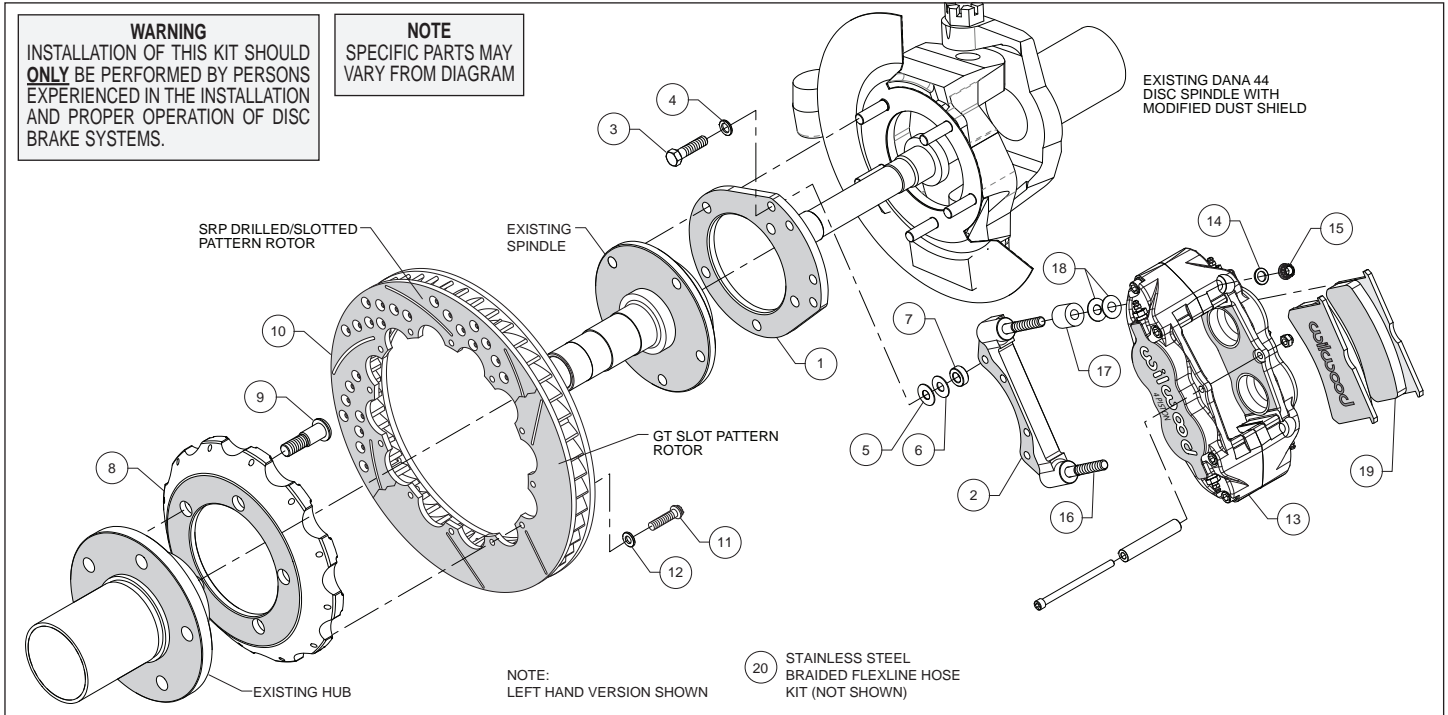
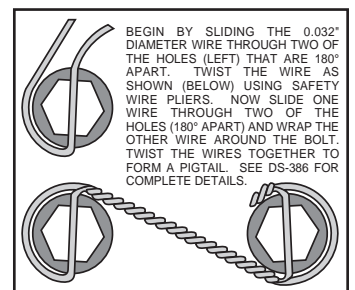

Figure 1. Typical Installation Configuration
Figure 4. Safety Wire Diagram
Assembly Instructions (numbers in parenthesis refer to the parts list and Figure 1 on the preceding pages):
- Orient the flat mount bracket (1) as shown in Figure 1 and Photo 1. Install the OEM spindle over the bracket and secure with OEM nuts, Photo 2. Temporarily tighten the mounting nuts. **NOTE:** *The bracket must fit squarely against the mount bosses on the upright.* Inspect for interference from casting irregularities, machining ridges, burrs, etc. Remove nuts one at a time, apply red *Loctite*[®] 271 to the bolt threads and torque nuts to OEM specification.
- The caliper mount bracket (2) should initially be installed with clean, dry threads on the mounting bolts. Orient the bracket as shown in Figure 1 and Photo 3, and install using mount bolts (3) and washers (4). Initially place one .035" thick shim (5) and spacer (7) on each bolt between the flat and caliper brackets, Figure 1. Temporarily tighten the mounting bolts. Later, after the caliper alignment has been checked, the mount bolts will be secured using red *Loctite*[®] 271.
- Orient the hat (8) and the OEM hub as shown in Figure 1 and Photo 4. **NOTE:** *The hat must fit flush against the hub or excessive rotor run out may result.* Press fit the wheel studs (9) thru the holes in the hat and into the existing hub. **NOTE:** *We recommend this procedure be performed by a qualified machinist.*
- Orient the rotor (10) and the hat/hub assembly as shown in Figure 1 and Photo 5. Attach rotor to hat using bolts (11) and washers (12). Using an alternating sequence, apply red *Loctite*[®] 271 to the threads, and torque to 155 **in-lbs**. For an added measure of security, the bolts may be safety wired using standard 0.032 inch diameter stainless steel safety wire as shown in Figure 4.
- Lubricate the caliper mounting studs (16) with lightweight oil. Initially place two .035" thick shims (18) and spacer (17) on each stud as shown in Figure 1 and Photo 6. Mount the caliper (13) onto the bracket (2) using lock nuts (15) and washers (14), Figure 1. Temporarily tighten the lock nuts and view the rotor through the top opening of the caliper. The rotor should be centered in the caliper, Photo 7. If not, adjust by adding or subtracting shims (5 and/or 6) between the spindle basket and caliper bracket. Always use the same amount of shims on each of the four mounting bolts. Once the caliper alignment is correct, remove the bracket to bracket mounting bolts (3) one at a time, apply red *Loctite*® 271 to the threads, and torque to 35 ft-lb.